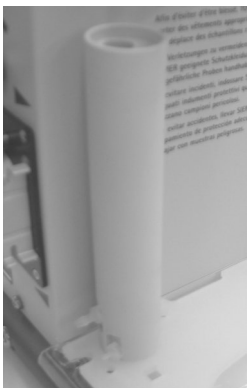

Figure 6. The rinse reservoir fitted
- 3 The rinse reservoir must be twisted clockwise 90° until it 'locks' in position. The nipples on the rinse reservoir should be facing the front of the Agilent SPS 3 (see Figure 6).